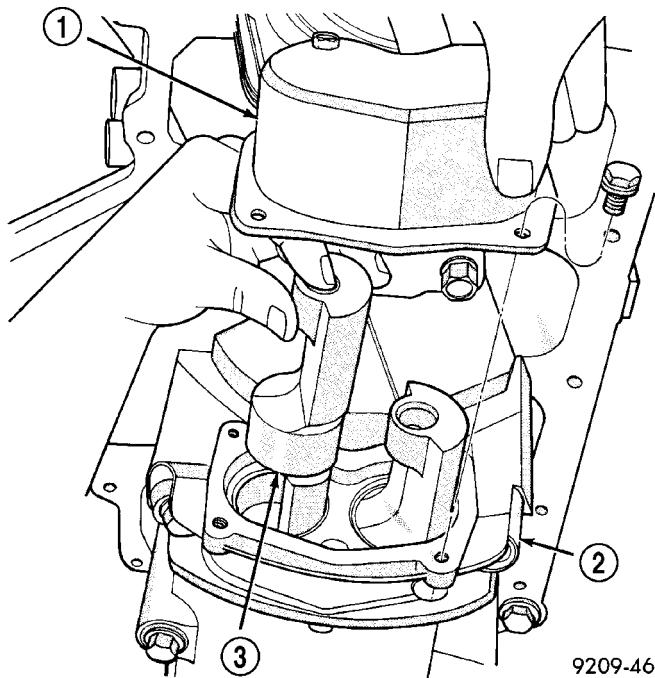

Fig. 138 Balance Shaft - Removal/Installation
- (8) Remove rear cover and balance shafts (Fig. 138).
- (9) Remove four carrier to crankcase attaching bolts to separate carrier from engine bedplate.